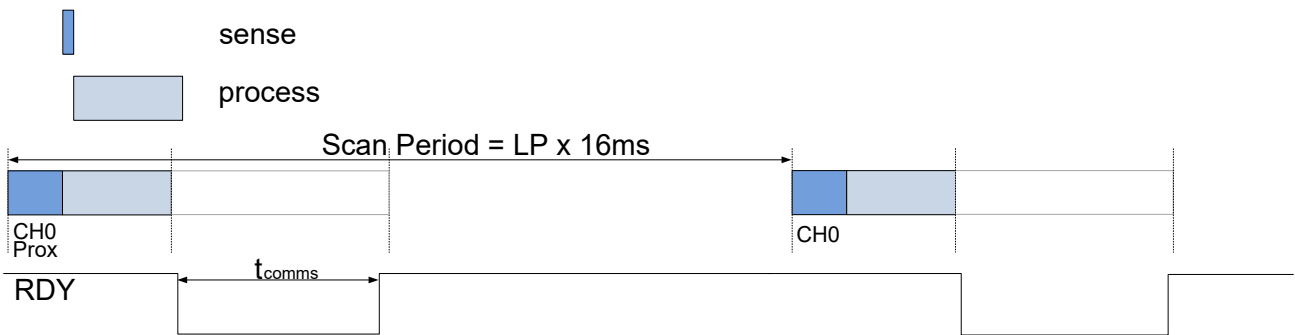

Figure 5.2 IQS360A Charge Cycle Timing in Low Power Mode.
NOTE: While in any power mode the device will zoom to Boost Power (BP) mode whenever the condition $(CS - LTA)^1 > \text{PROX_TH}$ or TOUCH_TH holds, indicating a possible proximity or touch event. This improves the response time. The device will remain in BP for t_{ZOOM} and then return to the selected power mode. The zoom function allows reliable detection of events with count values being produced at the BP rate. The LP charge cycle timing is illustrated in **Figure 5.2**. Bit 3 in Register 0x01, byte 0, will indicate if low power is active (bit 3), or the device is zoomed in (bit 0).
Adjusting the charge transfer speed will change the charge cycle duration (t_{SENSE}) as shown in **Figure 5.2**.